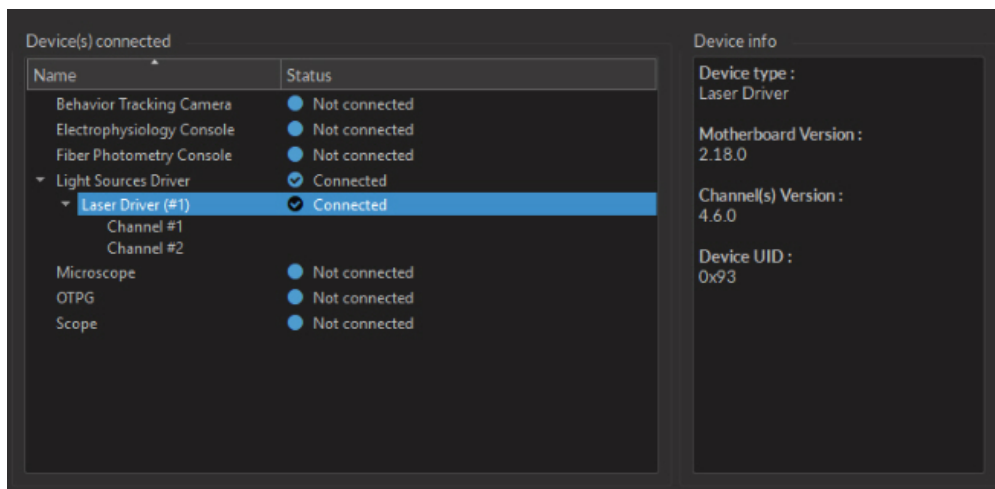

Figure 2.6: Device Manager Window
- The **Device Manager** selection opens the **Device Manager** window (Fig. 2.6). This window shows the connected devices as well as their respective firmware versions.